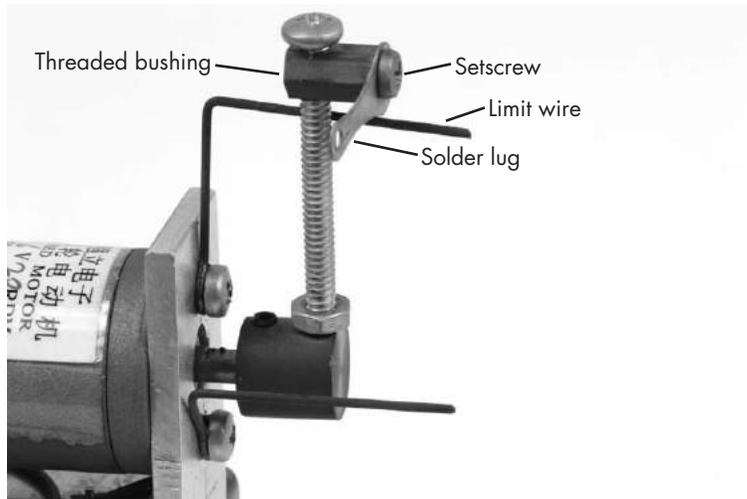

Figure 2-18: A photograph detailing the head of the crank. Note the solder lug used to hold the wire and the alligator stop clip on the left side.
2. In the bushing, perpendicular to the motor shaft hole, use a #36 drill to drill a hole. Then, tap the hole you drilled so a long 6-32 screw can serve double duty as a setscrew and crank. You can also use a separate setscrew to move the crank farther from the motor, as I did in Figure 2-18.
3. Thread the crank screw into the bushing so it bears tightly against the motor shaft, and use a locking nut to hold the screw in place (see Figure 2-18).
5. Take an M3 \times 0.5 mm machine screw and put it through the solder lug (see Figure 2-19 for the lug itself and Figure 2-18 for the lug in place). Screw it into the standoff all the way so it binds on the crank screw.